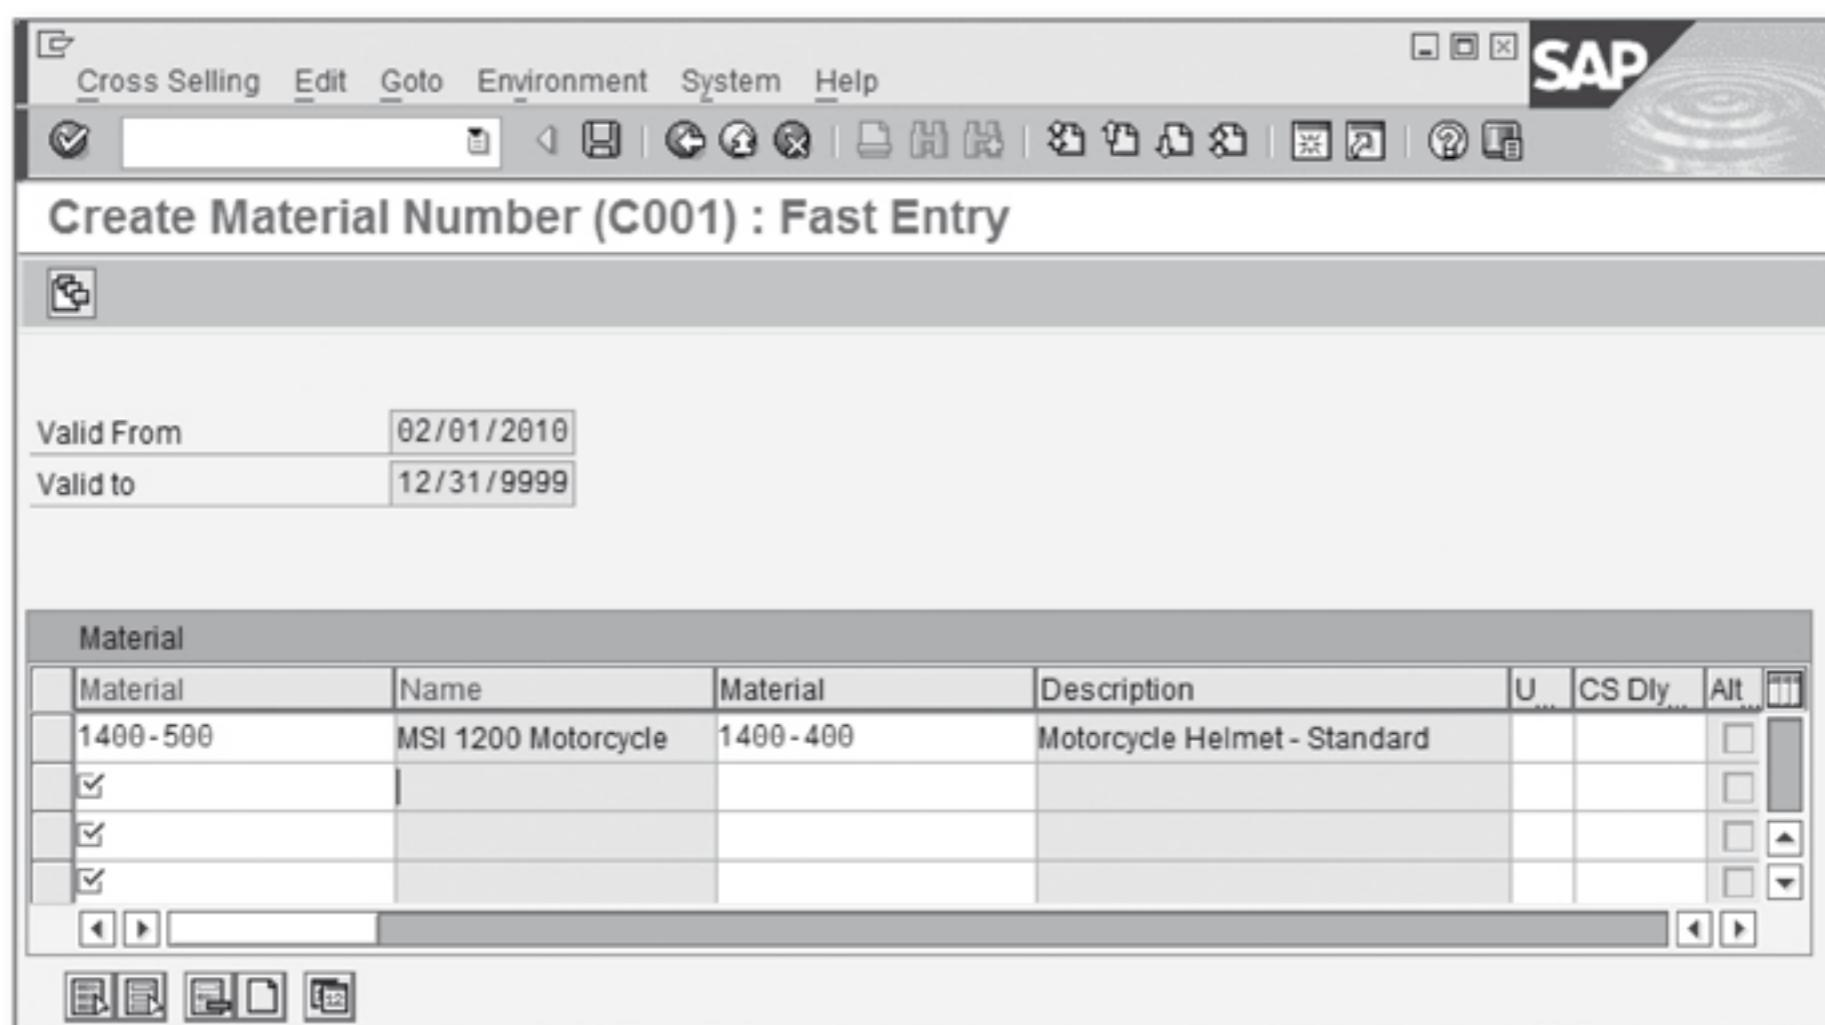

Figure 2.14 Create Cross Selling Fast Entry Screen
3. Enter the Validity Period for this data, and then in the first column, enter the main material number for the "hook" product, which is the motorcycle in this example. In the second column, enter the material(s) that you want to "suggest" to your customer. See Figure 2.14 for reference.